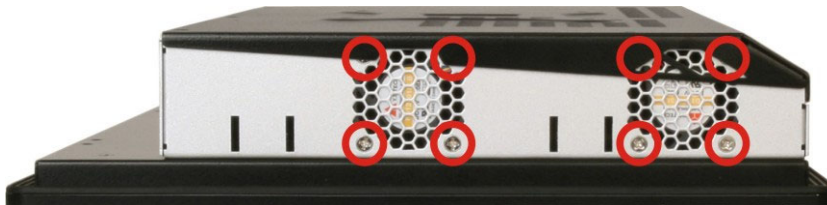

Figure 4-4: System Cooling Fan Retention Screws
Step 3: Remove the system cooling fan retention screws from the left panel (Figure 4-4).